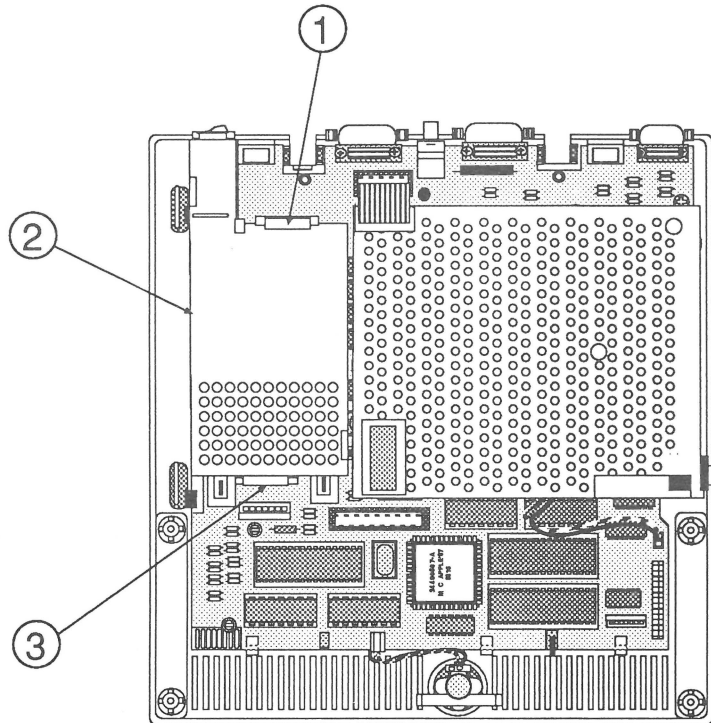

FIGURE 9
2. Simultaneously pull back on the rear power supply latch (Figure 9, #1) and lift the rear of the power supply (Figure 9, #2) far enough to disengage the latch.
3. While still holding up the rear of the power supply, simultaneously pull forward on the front power supply latch (Figure 9, #3) and lift the front of the power supply far enough to disengage logic board connector J1.